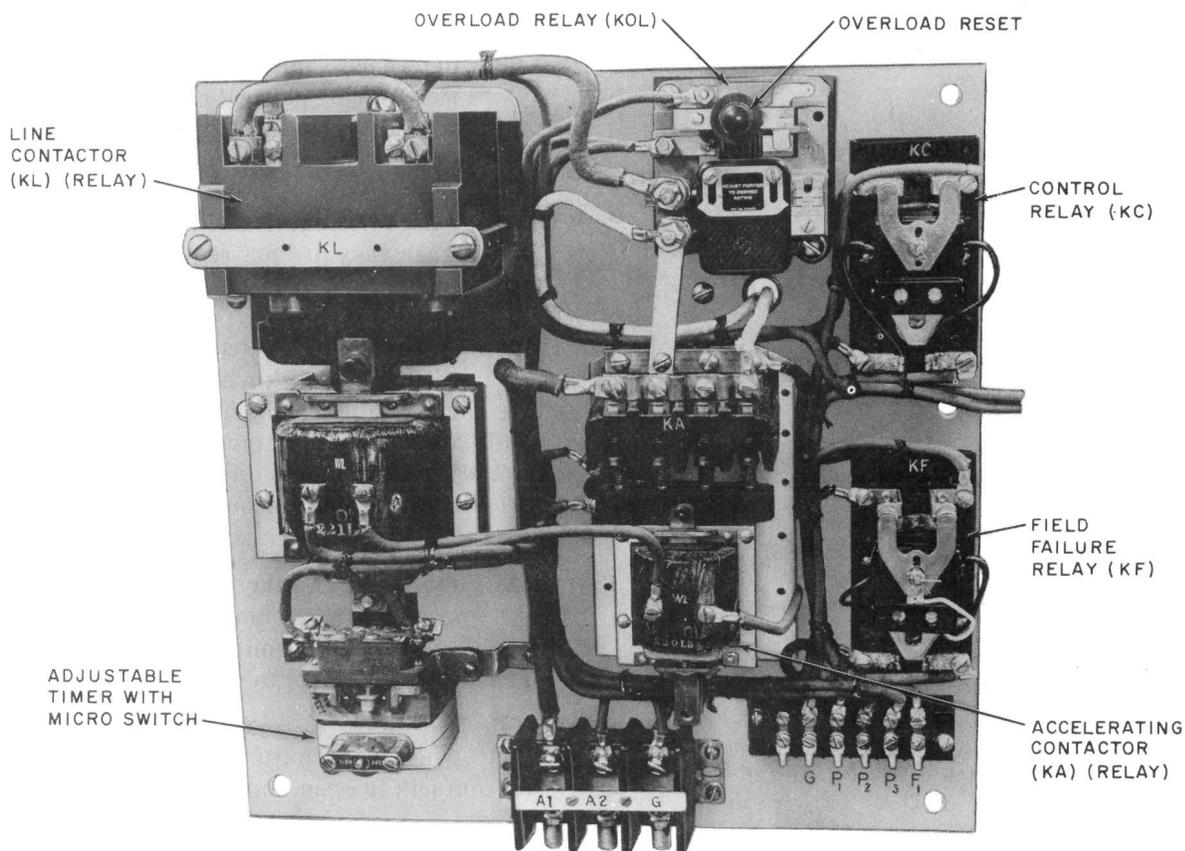

Fig. 1—General View of KS-15983, L1, Starter (Resistor Mounted on Rear of Plate—Cabinet Removed)
1.09 When work is being done on a relay in an operating circuit, see that service is maintained. Typical starters are shown in Fig. 1 and 2.